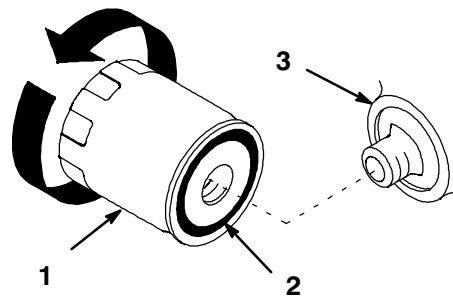

Figure 23
2. Remove the old filter and wipe the filter adapter (Fig. 23) gasket surface.
4. Apply a thin coat of new oil to the rubber gasket on the replacement filter (Fig. 23).
5. Install the replacement oil filter to the filter adapter. Turn the oil filter clockwise until the rubber gasket contacts the filter adapter, then tighten the filter an additional 1/2 turn (Fig. 23).